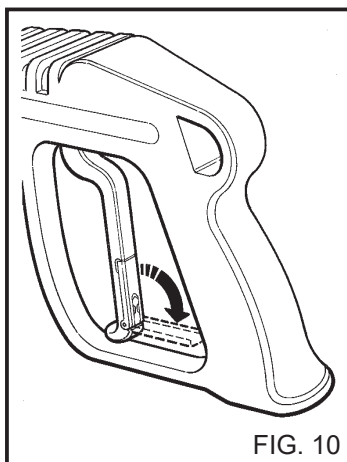

FIG. 10
- When the water cleaner is not used, close the safety device on the handle. (fig. 10)